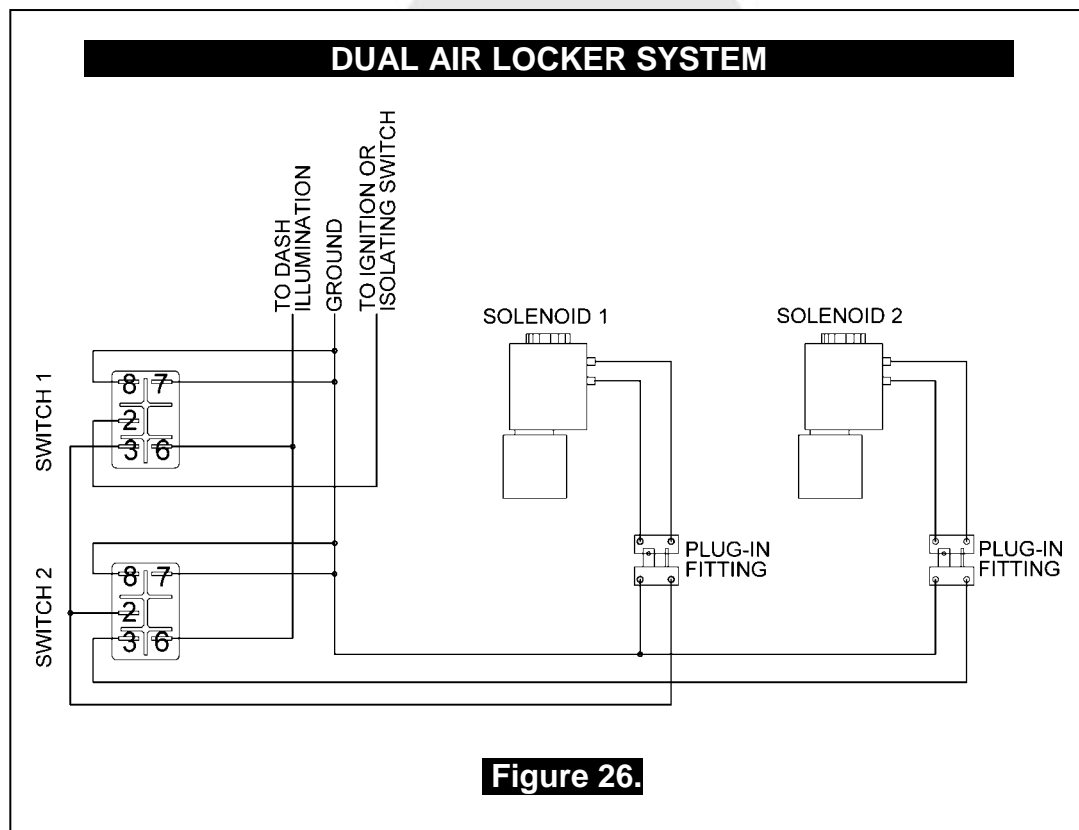

Figure 26.
- ☐ If two *Air Lockers* are to be installed in the system, ARB recommends that the switches and solenoids be wired according to figure 26. For safety reasons, this configuration allows SOLENOID 2 to be actuated only if SOLENOID 1 is already on.